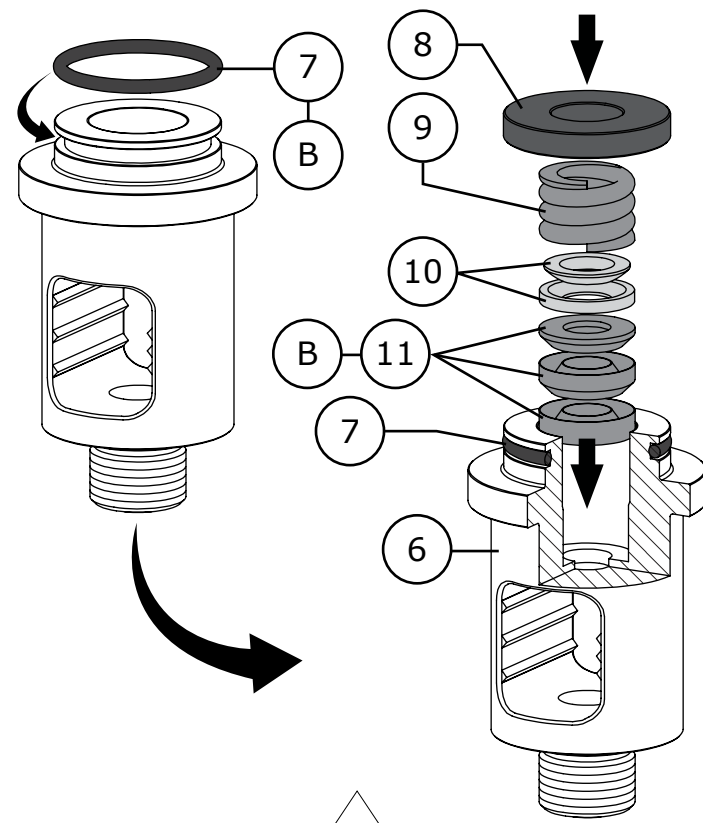

Figure 35 Bonnet Assembly
- 5 Install spherical washer (Key 10), spring (Key 9), and bonnet spacer (Key 8) as shown in Figure 35. **NOTE:** The bonnet spacer will just sit on top of the bonnet (Key 6) and will slide or fall off if not careful.